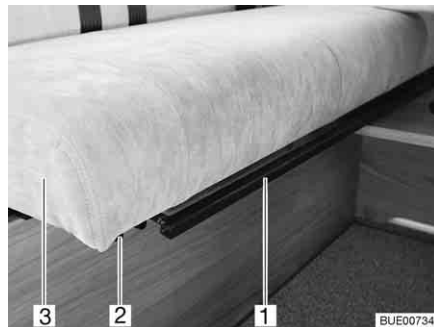

Fig. 18 Backrest adjustment mechanism for bench
- Pull or press the bar (Fig. 18,1) under the seat (Fig. 18,3) upwards and hold it in this position.
- Push the seat on the rails (Fig. 18,2) to the desired position or carefully pull it forwards as far as it will go.